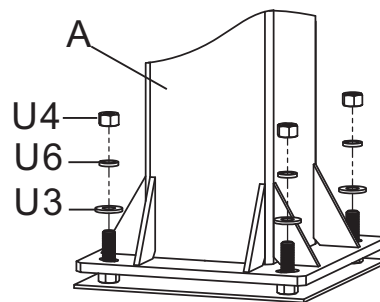
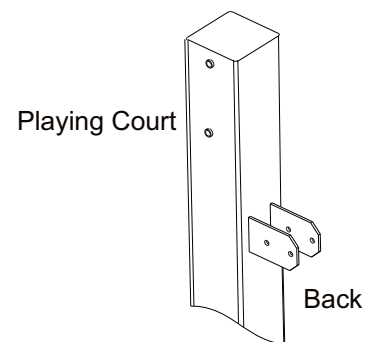

FIGURE 1B
FIGURE 1C
- B. Remove the Padding from Main Post (A). Place the Main Post (A) over the J-Bolts. Slide a 18mm Thick Washer(U3), a Lock washer M18 (U6) and thread a 18mm Hex Nut (U4) to each J-bolt. Tighten the Nuts only a few turns onto the J-Bolts as shown in FIGURE 1B.
- C. If the Main Post (A) is not exactly vertical, adjust the 18mm J-Bolt Hex Nuts(U4) located under the Post base. Tighten all of the Hex Nuts(U4) Above Post base when Main Post(A) is vertical.
- NOTE: Face the Main Post(A) with Actuator Bracket facing away from playing court(as shown in FIGURE 1C).